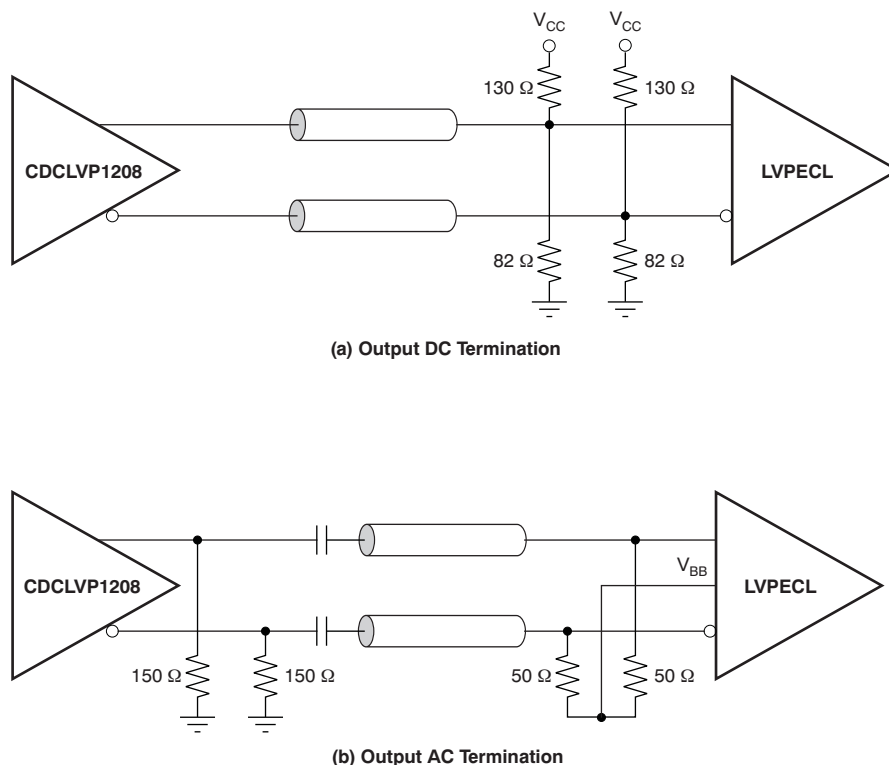

Figure 13. LVPECL Output DC and AC Termination for  $V_{CC} = 3.3\text{ V}$
The CDCLVP1208 is an open emitter for LVPECL outputs. Therefore, proper biasing and termination are required to ensure correct operation of the device and to minimize signal integrity. The proper termination for LVPECL outputs is a  $50\ \Omega$  to  $(V_{CC} - 2)$  V, but this DC voltage is not readily available on PCB. Therefore, a Thevenin equivalent circuit is worked out for the LVPECL termination in both direct-coupled (DC) and AC-coupled configurations. These configurations are shown in Figure 12 (a and b) for  $V_{CC} = 2.5$  V and Figure 13 (a and b) for  $V_{CC} = 3.3$  V, respectively. It is recommended to place all resistive components close to either the driver end or the receiver end. If the supply voltage for the driver and receiver is different, AC coupling is required.